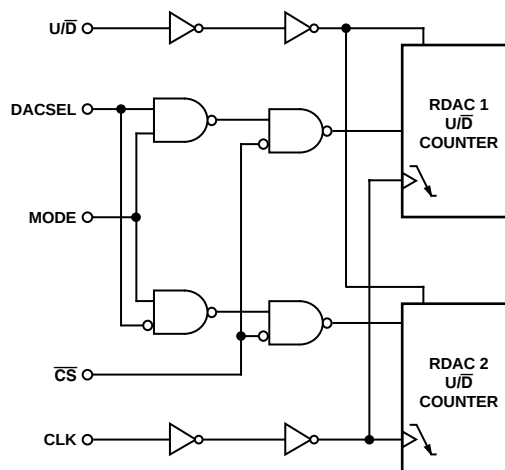

Figure 30. Detailed Digital Logic Interface Circuit
The AD5222 contains a push-button controllable interface. The active inputs are clock (CLK), $\overline{CS}$ and up/down (U/ $\overline{D}$). While the MODE, and DACSEL pins control common updates or individual updates. The negative-edge sensitive CLK input requires clean transitions to avoid clocking multiple pulses into the internal UP/DOWN counter register, Figure 30. Standard logic families work well. If mechanical switches are used for product evaluation a flip-flop or other suitable means should debounce them. When $\overline{CS}$ is taken active low, the clock begins to increment or decrement the internal up/down counter, dependent upon the state of the U/ $\overline{D}$ control pin. The UP/DOWN counter value (D) starts at 40_H at system power ON. Each new CLK pulse will increment the value of the internal counter by 1 LSB until the full-scale value of $7F_H$ is reached, as long as the U/ $\overline{D}$ pin is logic high. If the U/ $\overline{D}$ pin is taken to logic low, the counter will count down, stopping at code 00_H (zero-scale). Additional clock pulses on the CLK pin are ignored when the wiper is at either the 00_H position or the $7F_H$ position. The detailed digital logic interface circuitry is shown in Figure 30.